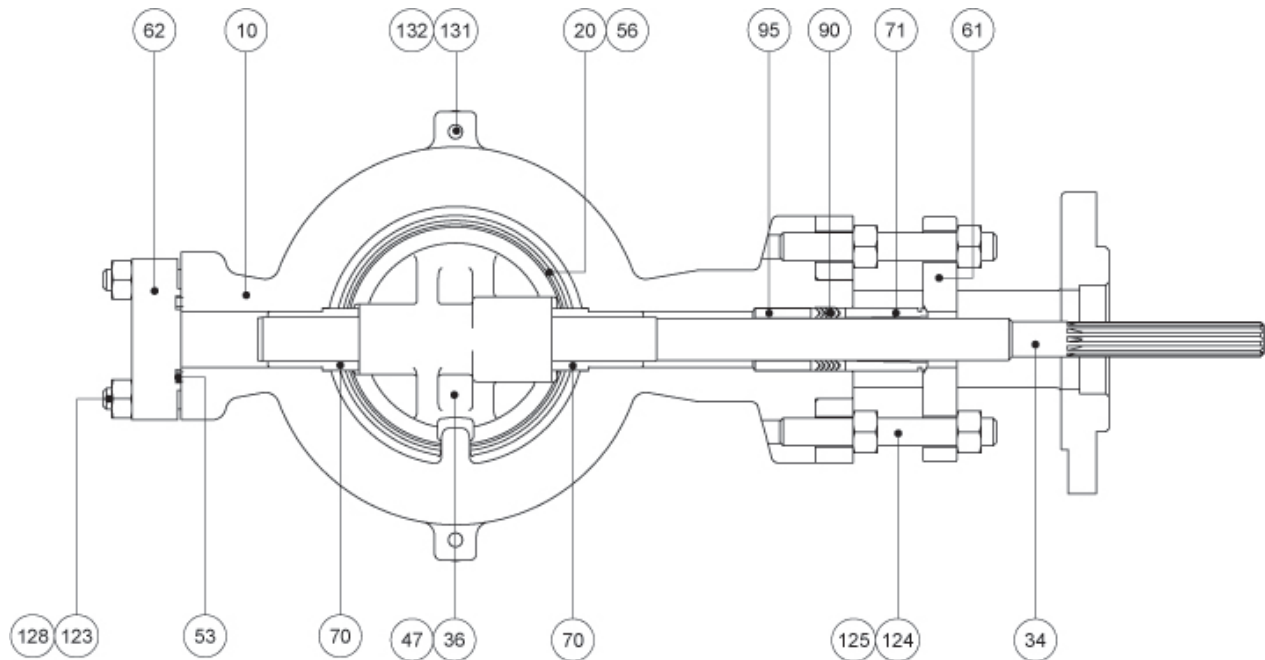

Figure 2: BXL Valve Body Sub-Assembly
For disassembling the BXL valve, refer to Figures 2, 3 and 4 and proceed as follows:
- Remove the seat retainer screws and retainer clips. Remove the seat retainer of the valve body (see Figures 2 and 6).
To reassemble the B \times L valve body, refer to figures 2, 3, 4, 5 and 6 and proceed as follows: